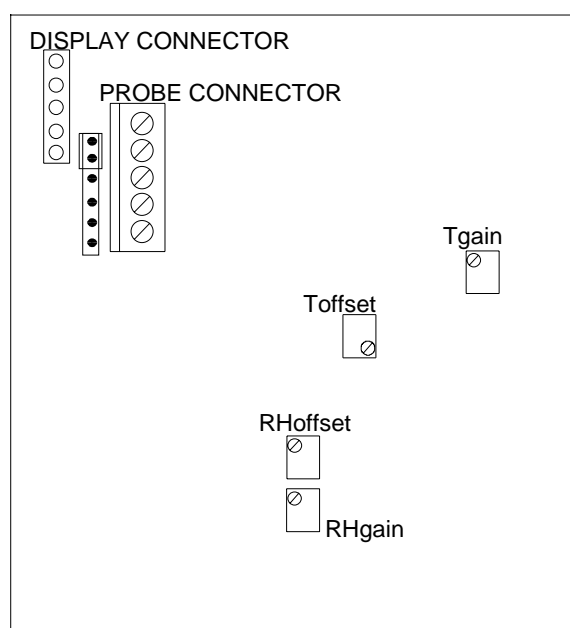

Figure 4.2 Calibration potentiometers
- Use the RH offset potentiometer (see Figure 4.2) to adjust the output signal to the value given in the calibration table (Chapter 4.4).
- Check that the reading corresponds within the desired accuracy to the reading given in the calibration table. If not, adjust the reading with the RH gain potentiometer (see Figure 4.2).